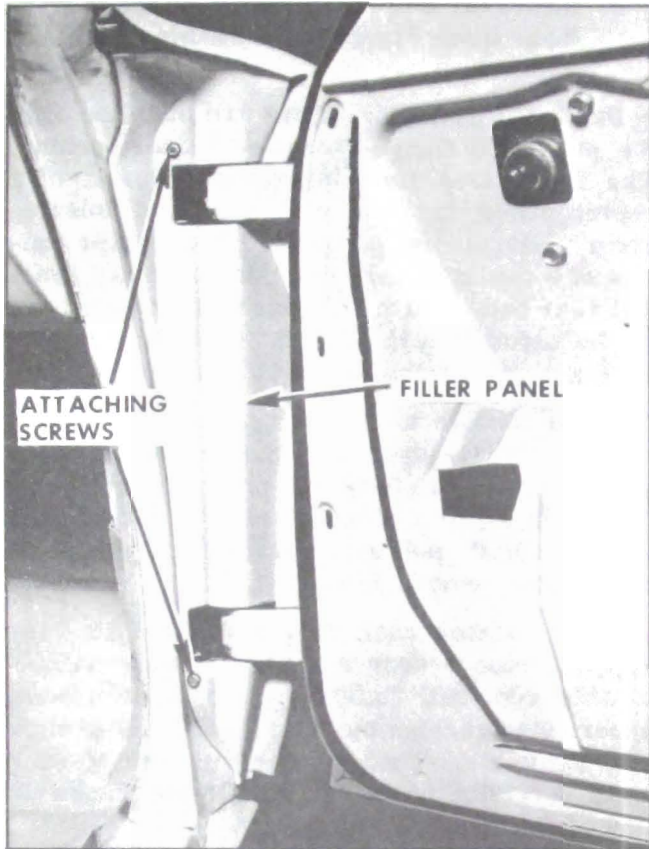

Figure 13-35—Front Fender Filler Panel
1. Remove screws securing panel and remove panel. See Figure 13-35.